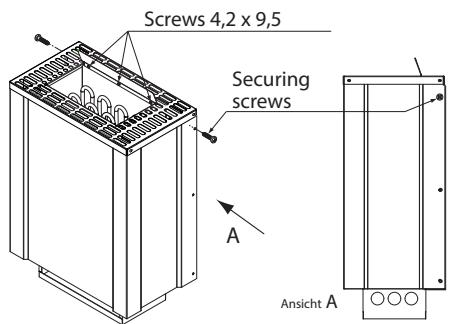

**Fig. 4**
4. Make the cable connections according to the wiring diagram. The corresponding wiring diagram is given in this manual (fig. 4).